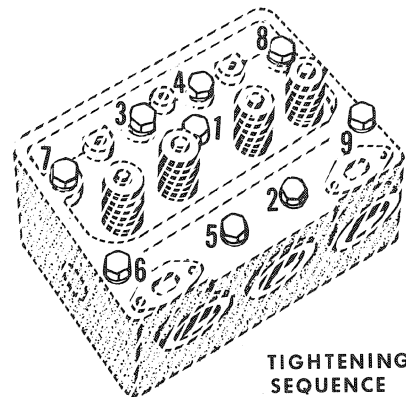

Figure K-6
11. Torque cylinder head bolts or nuts to the proper sequence illustrated in Figure K-6. The three torquing steps recommended are 50 foot pounds, 100 foot pounds and finally 150 foot pounds.